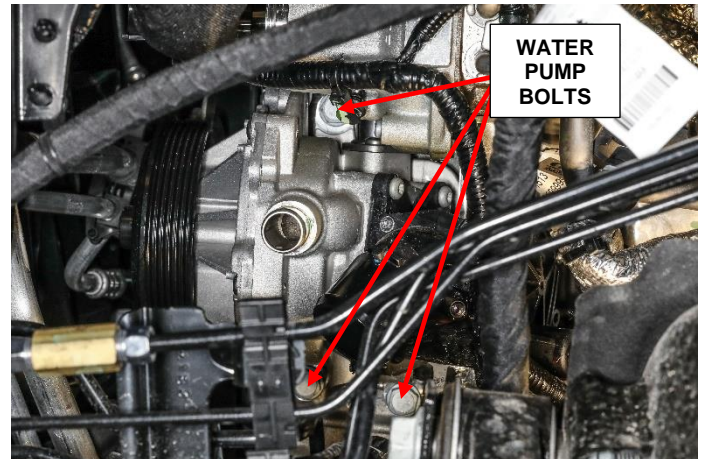

Figure 2 – Water Pump Assembly
29. Working thru the wheelhouse, remove the water pump bolts (Figure 2).